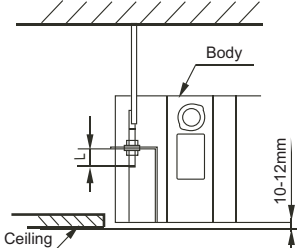

Fig.5-6
- Adjust the position to ensure the gaps between the body and the four sides of ceiling are even. The body's lower part should sink into the ceiling for 10~12 mm (refer to fig.5-6)
- In general, L is half of the screw length of the installation hook.(refer to fig.5-6)